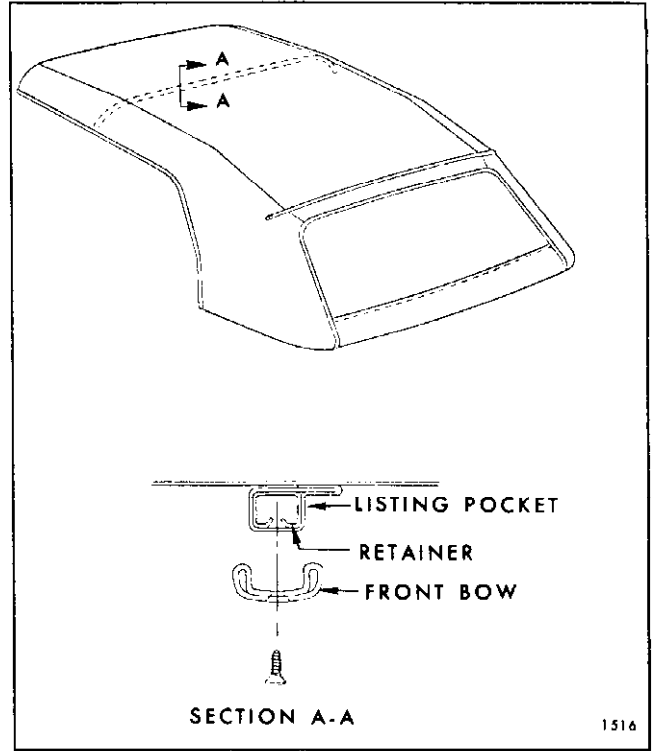

Fig. 13-25 — Listing Pocket Retainer
- 32. Install front bow to listing pocket retainer attaching screws (Fig. 13-25).